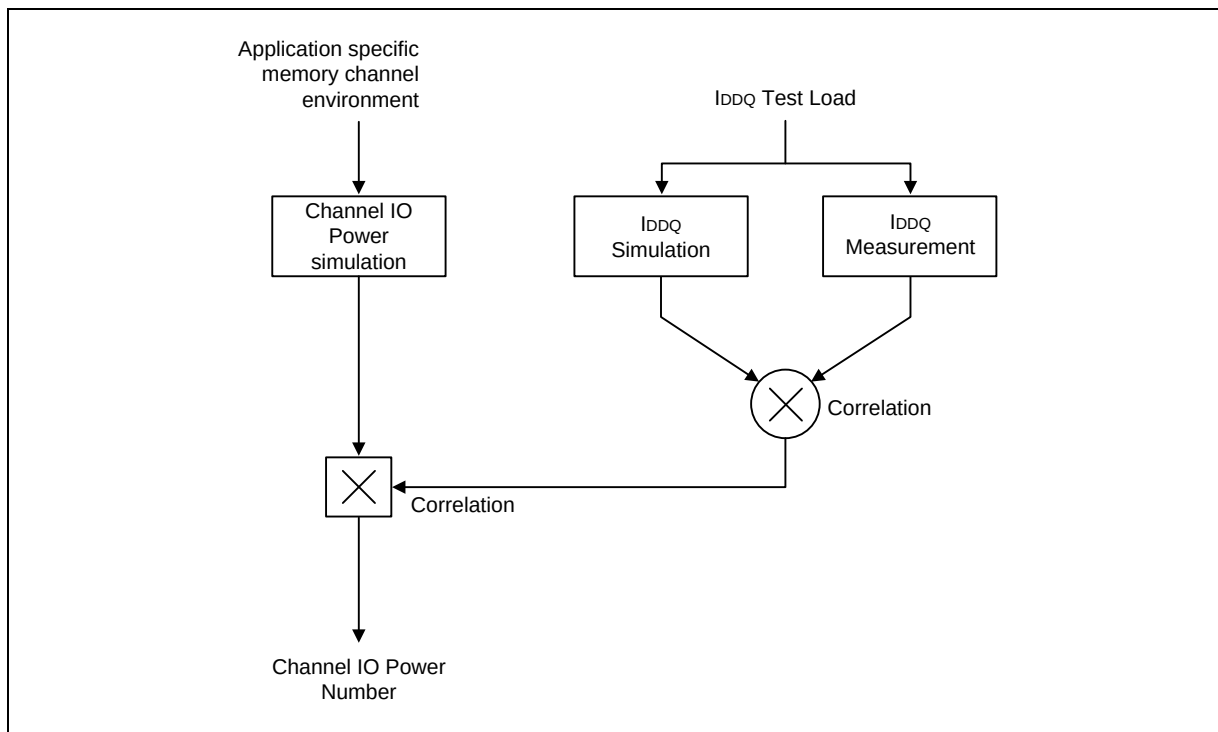

Figure 106 – Correlation from simulated Channel IO Power to actual Channel IO Power supported by  $I_{DDQ}$  Measurement
**Attention:** IDDQ values cannot be directly used to calculate IO power of the DDR3 SDRAM. They can be used to support correlation of simulated IO power to actual IO power as outlined in Figure 106. In DRAM module application, IDDQ cannot be measured separately since VDD and VDDQ are using one merged-power layer in Module PCB.